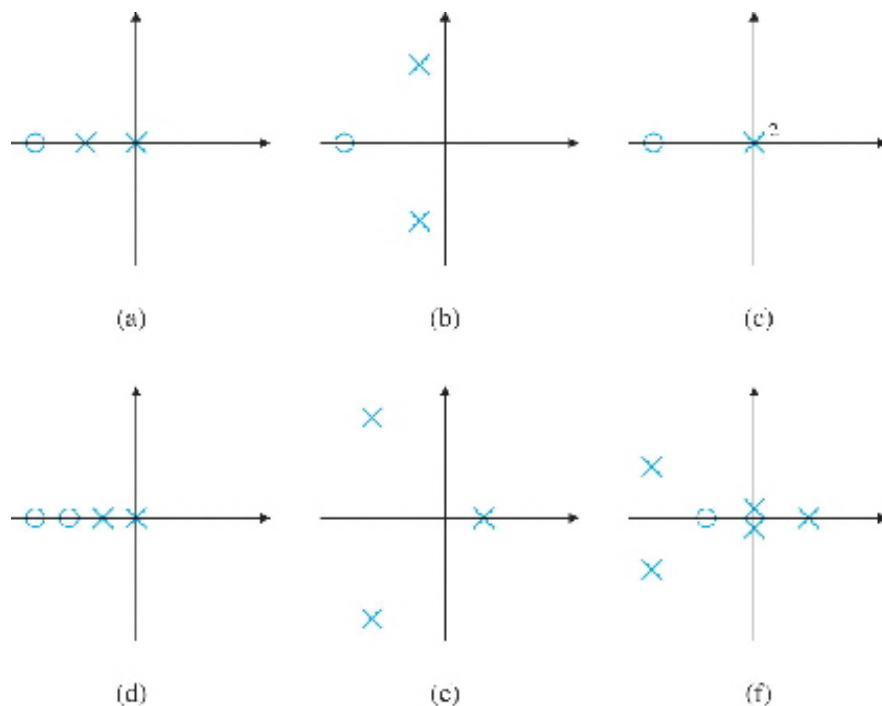

Fig. 5.50 Pole-zero maps for Problem 5.2
2. Roughly sketch the root loci for the pole-zero maps as shown in Fig. 5.50 without the aid of a computer. Show your estimates of the center and angles of the asymptotes, a rough evaluation of arrival and departure angles for complex poles and zeros, and the loci for positive values of the parameter  $K$ . Each pole-zero map is from a characteristic equation of the form
where the roots of the numerator  $b(s)$  are shown as small circles  $o$  and the roots of the denominator  $a(s)$  are shown as  $\times$ 's on the  $s$ -plane. Note that in Fig. 5.50(c) there are two poles at the origin.